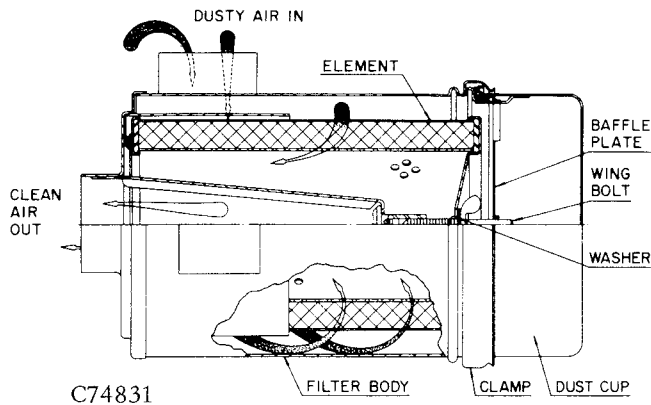

FIGURE 1-6. — AIR FILTER
**AIR FILTER** (Figure 1-6) furnished as standard equipment is a washable element two-stage dry type filter. The air filter must receive proper maintenance if maximum service is to be obtained from the unit. Establishing adequate and timely filter service is MOST IMPORTANT. To service the air filter, proceed as follows: